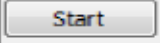

Figure 53 Manual Low Stop Limits Results: Succeeded
5. Click **Confirm** , the *Find Stops Log* lists detected values, test results appears (Figure 53) and if the test fails a list of reasons.